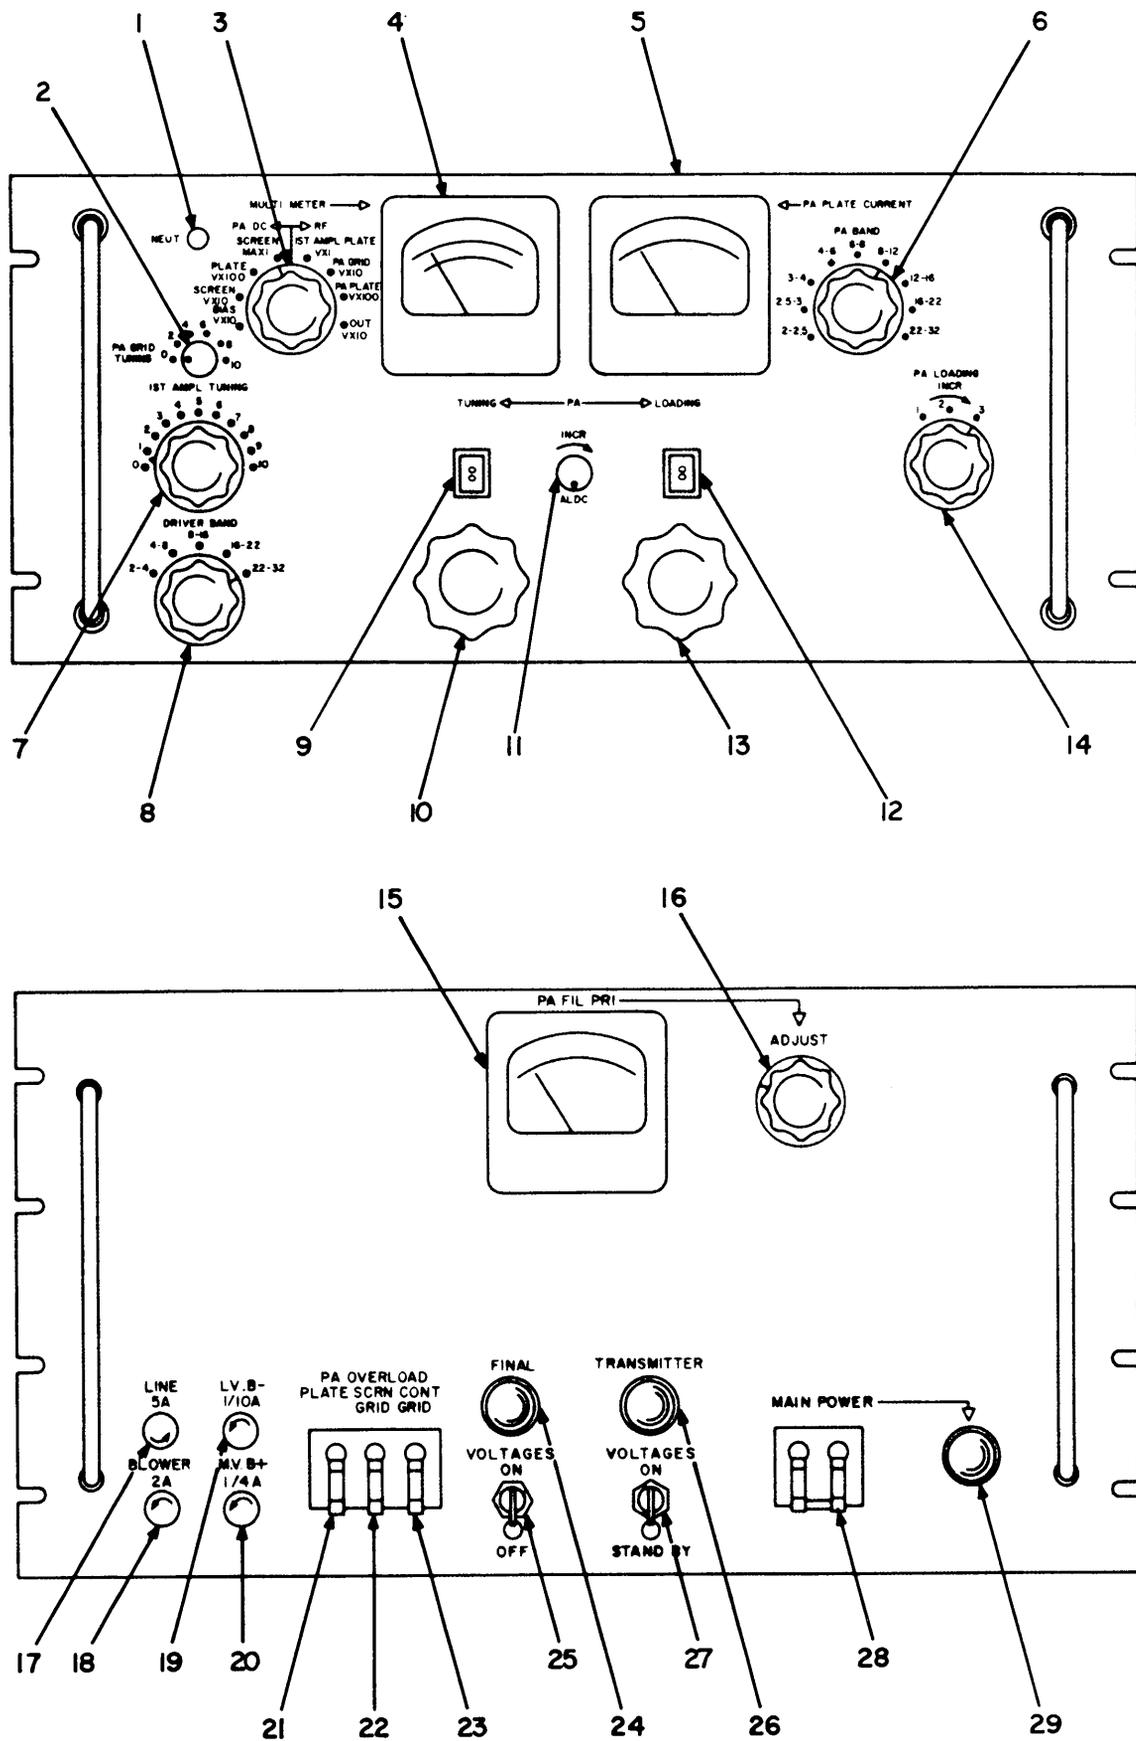

Figure 3-1. Panel Controls, PAL-1K(A)
Figure 3-1 shows PAL-1K(A) panel controls and includes number designations for reference in the text of this manual. Table 3-1 describes the function of each control and a cross-reference to component designations appearing in figures 8-1 and 8-2.